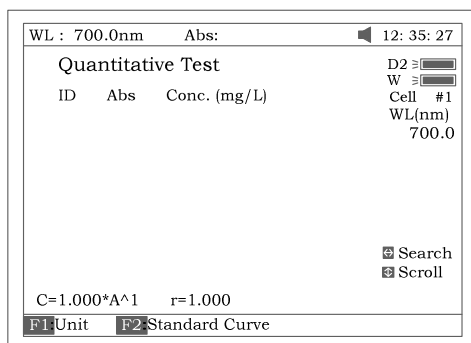
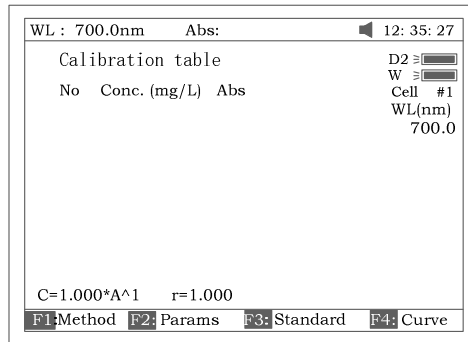
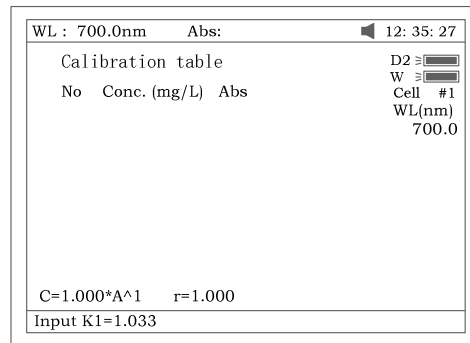
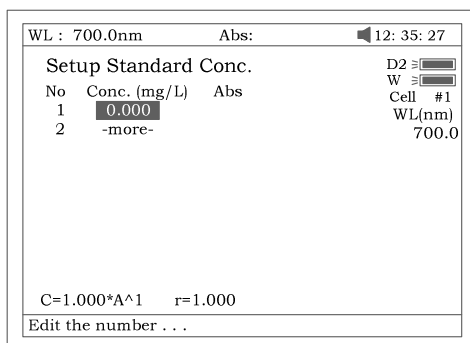

Fig 26
Fig 29
Fig 29A
Fig 30
Press **【2】** in Main Menu for “Quantitative” Test (Fig 26). Press **【ESC/STOP】** to exit.
Note: .If no automatic changer installed “cell #1” will disappear in Fig26.
3. Press **【F2】** in Fig 26 for more items to select .See Fig 29.
3.1 Press **【F1】** in Fig 29 to select fitting method. There are 4 methods for you to choose: Linear fit, linear fit through zero, square fit and cubic fit.
3.2 Press **【F2】** in Fig 29 to enter directly a known standard curve. Fig 29A.
3.3 Press **【F3】** in Fig 29 to establish a standard curve by measuring a group of standard samples. See Fig 30.
See 3.2. For Fig 29 enter a known standard curve directly.
Note: All sample results must be taken in screen Fig26.